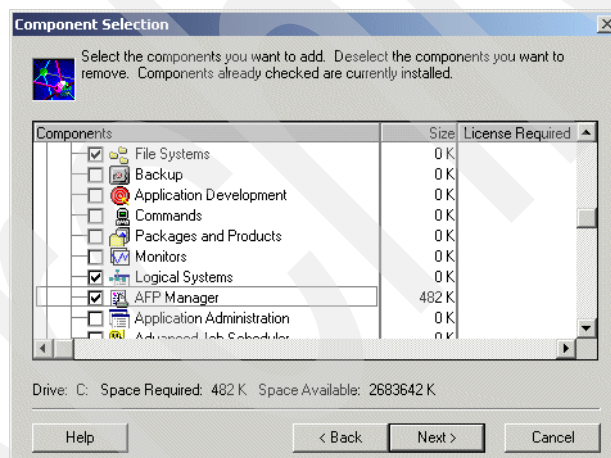

Figure 140. Component Selection
2. Select **Selective Setup** in the Client Access Express window. This command allows you to install components that were not initially installed. Figure 140 shows all installed and installable components. Use the rulers to scroll down through the different selections.